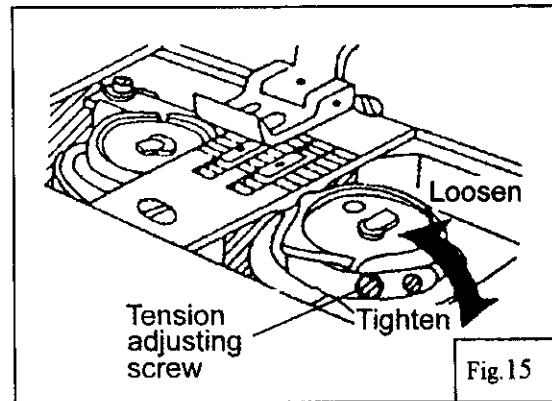

Fig.15
8) Tension adjustment of bobbin threads (Fig.15)